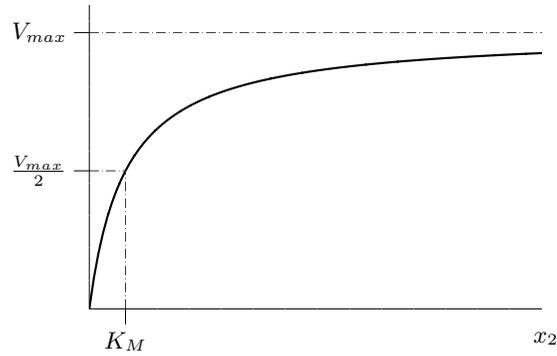

Figure 8.16a
e) The relation is shown in Figure 8.16a.